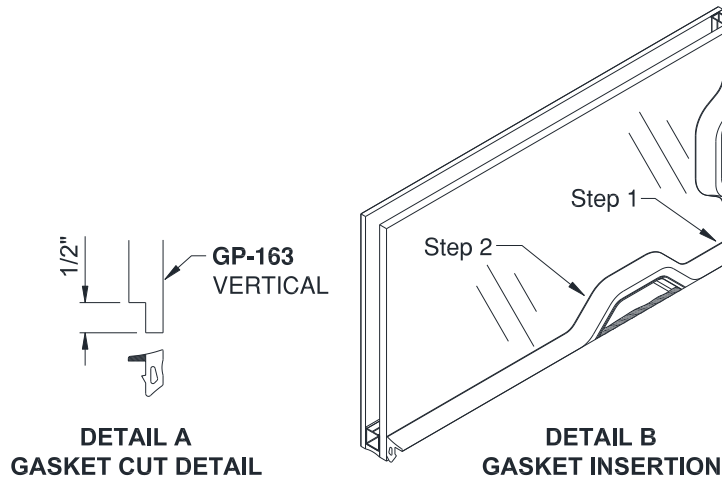

Figure 54: Wedge Gasket Notching and Installation
- 16.4.1 When vertical Wedge Gasket is required, verify the vertical **GP-163** Wedge Gasket is cut to specification in *Section 3.0* to provide adequate compression. Notch ends of the gasket at horizontal Wedge Gasket connection per *Detail A* in *Figure 54*.
- 16.4.3 Insert the **GP-163** Gasket into the glazing pocket, first inserting the horizontal and then the vertical, when required. Insert the ends into the corners first, then insert the middle of the D.L.O., compressing out toward the corners. Reference *Figure 54*.